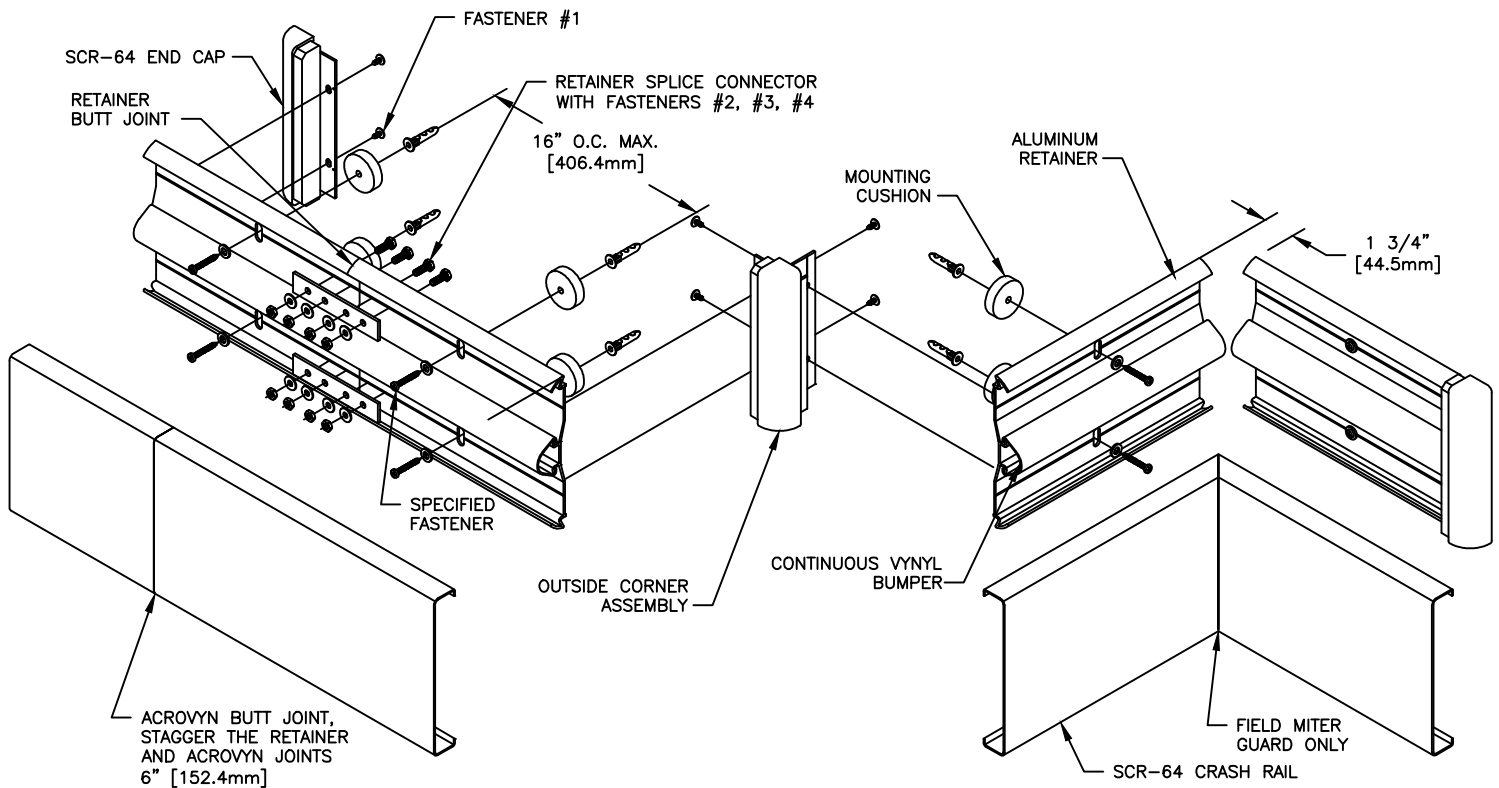

FIGURE 1.
2. CUT THE CONTINUOUS ALUMINUM RETAINER AND THE CONTINUOUS VINYL BUMPER TO LENGTH, USING THE REQUIRED DEDUCTIONS AS NOTED (SEE LAYOUT VIEW). PRE-DRILL CLEARANCE HOLES IN THE ALUMINUM RETAINER 16" [406.4mm] O.C. (SEE FIGURE 1)(SEE NOTE 2 AND CHART ON PAGE 2).